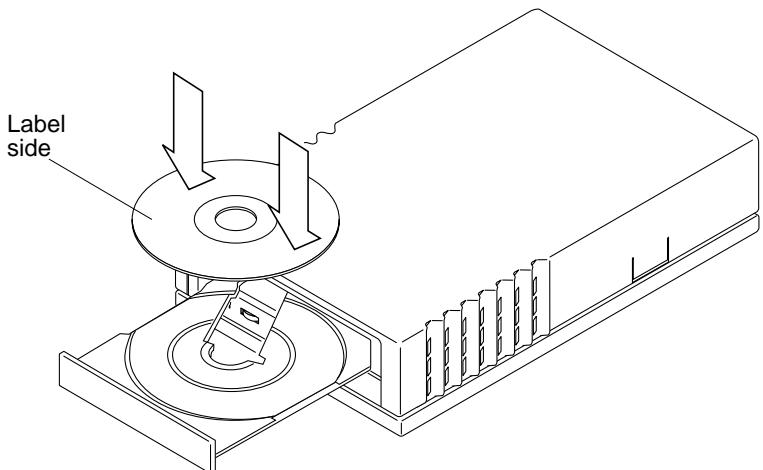

FIGURE 1-1 Inserting a CD into the CD-ROM Drive
2. **Place the CD, label side up, into the tray (FIGURE 1-1).**